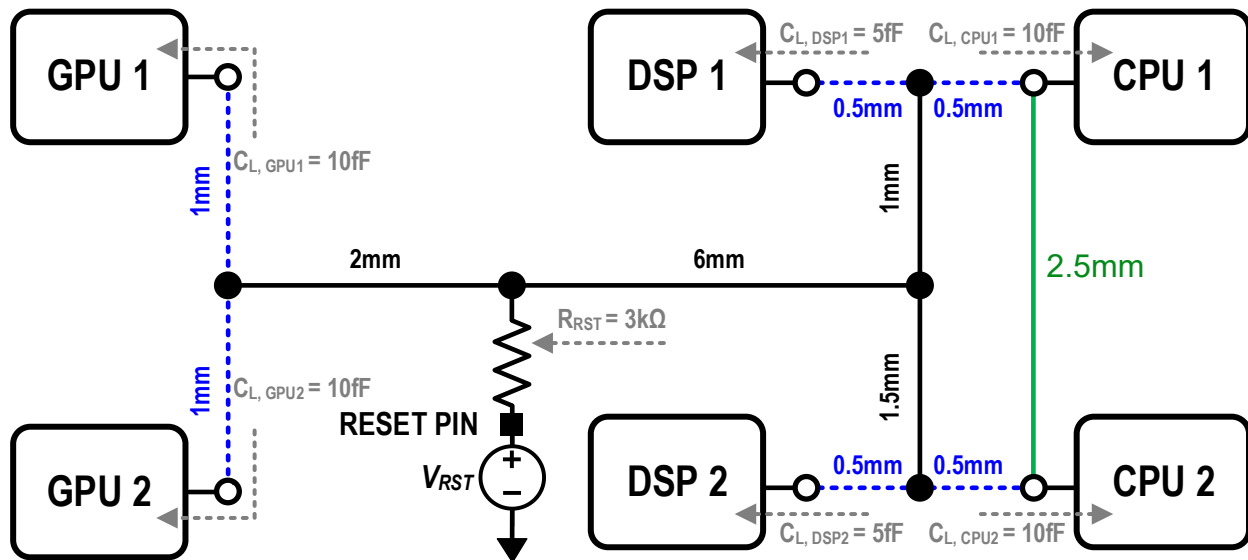

Fig. 2: Modified reset interconnect path in 2-Core Processor for Q4. & Q5.
- Q4. Assuming that there is one extra global interconnect (as shown in Fig. 2 in green) which form a mesh interconnect path. Estimate the **propagation delay** from *RESET PIN* to each receiver module using Elmore delay method with π lumped RC model.